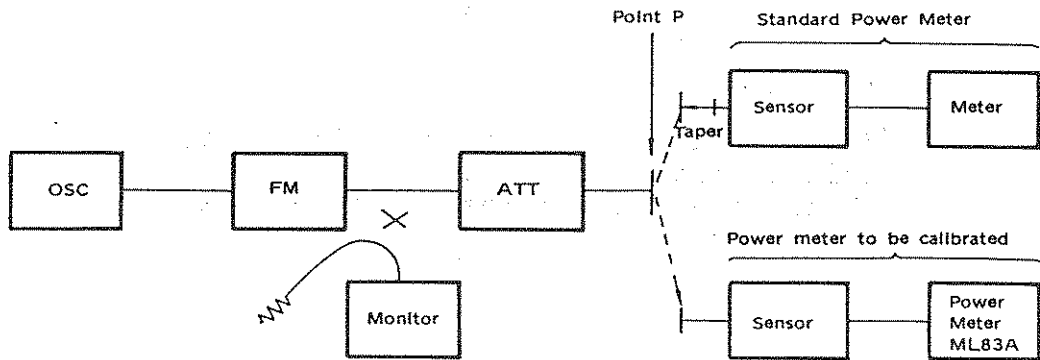

Fig. 4-4 Block Diagram of Sensor Calibration
- ① Using the cavity-resonator frequency meter, set the oscillation frequency of the millimeter wave band signal generator to the reference frequency. For example, set it to the middle frequency of the frequency band used by the sensor.
- ② Using the standard power meter, measure the power at point P shown in Fig. 4-4, and set the attenuator so that the measured value is 1 mW (0 dBm).
- ③ Disconnect the standard power meter from point P and connect the sensor of the power meter which is to be calibrated. Adjust and set the CALIB in the sensor so that the power meter being calibrated indicates 1 mW.